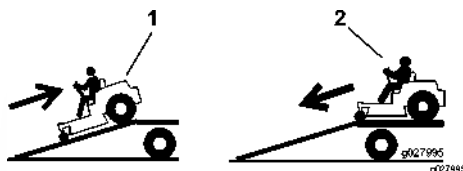

Figure 32
4. Back the machine up the ramp (Figure 32).
2. Drive the machine forward down the ramp (Figure 32).